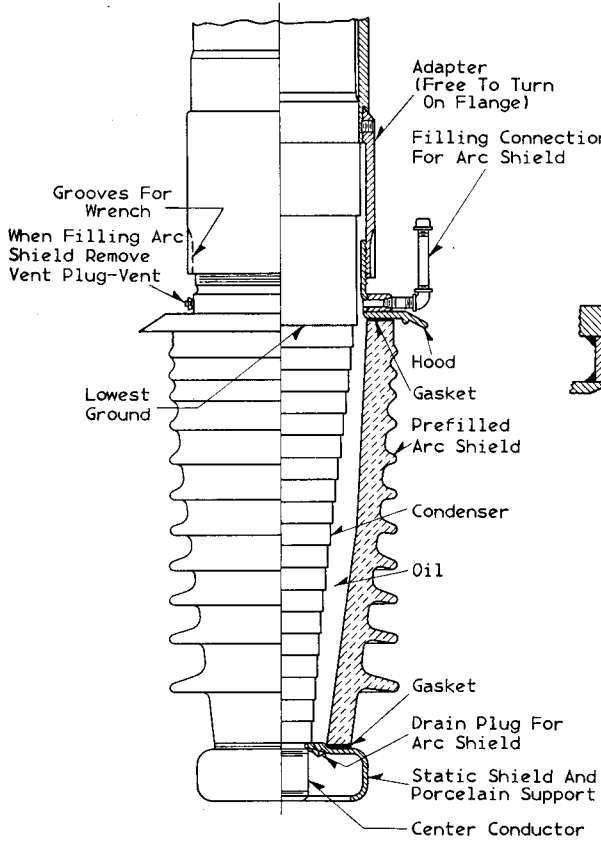

FIG. 3
14. After the bushing is lowered into place, the treated cloth and gum on the lower end of the bushing should be removed and the bottom end of the condenser cleaned (see paragraphs #9 and #10). If arc shields are used, they should be assembled as shown in Figure 3, after the bushings are mounted in the breaker. The hood is screwed far enough into the adapter to allow the static shield under porcelain to screw the full length of central conductor threads. The complete structure is made tight and the gaskets compressed by turning the adapter and holding the hood stationary. Fill the arc shield through the filling pipe with new WEMCO "C" oil until oil runs out vent hole. Seal the assembly by screwing on filling cap and vent plug. Check sample of oil from arc shield at breaker periodic inspection. Oil that shows discoloration or has a test below 18-kv. on a $\frac{1}{2} \times 10''$ gap, should be replaced with good oil.